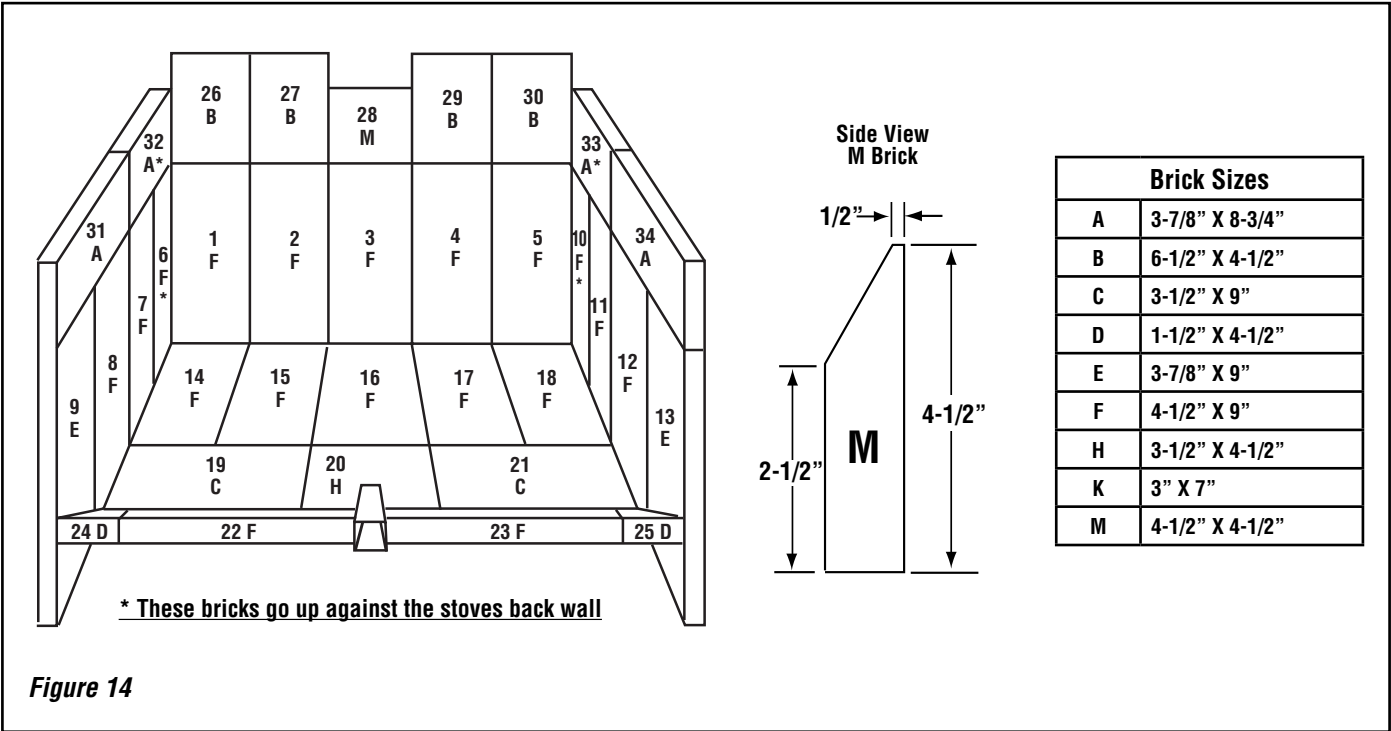

Figure 14
1. Install bricks #1-34 in the numbered sequence shown in **Figure 14** on the following page. **NOTE:** Bricks # 22-25 lean up against the lower air channel and butt against bricks #17-21 on the bottom of the stove.